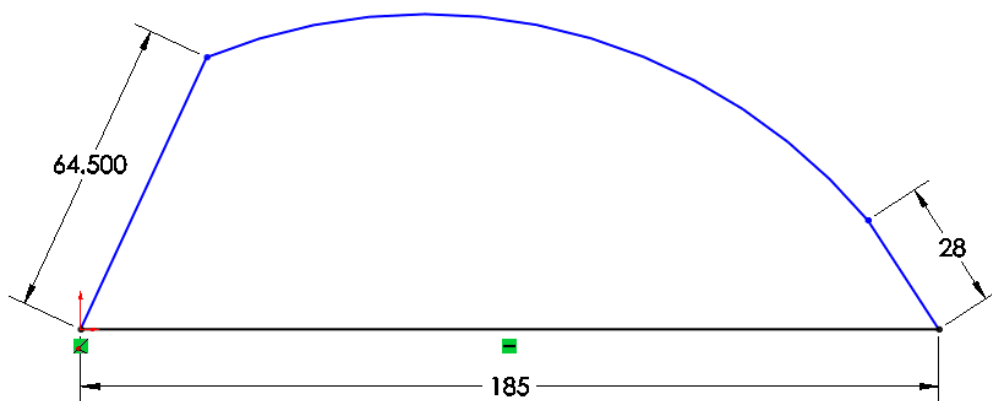

Figure 8
- Continue to dimension the remainder of the block as shown in figure 8.